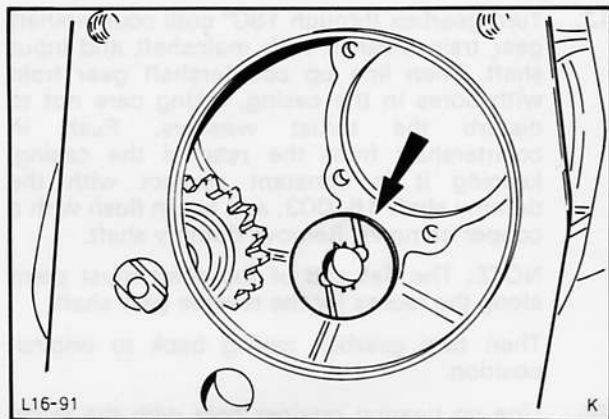

Fig. 93. Stick thrust washers of countershaft gear train in casing
37. Stick countershaft gear train thrust washers to recess in the casing with grease, Fig. 93.